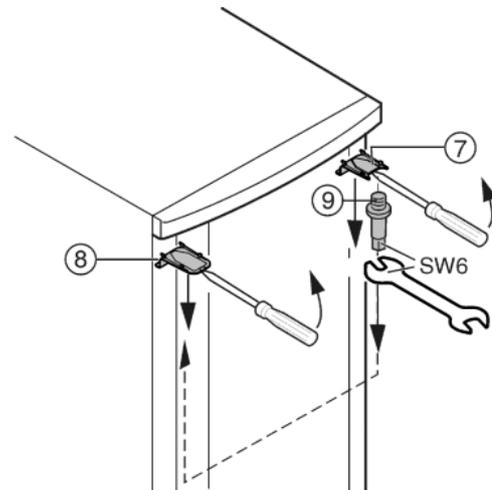

Fig. 6
- ▶ At the top, use a screwdriver to unclip cover *Fig. 6 (7)* and cover *Fig. 6 (8)* at the front, and remove by pulling out and down.
- ▶ Unscrew the bearing pin *Fig. 6 (9)* and screw it firmly into place on the opposite side (**with 4 Nm**).
- ▶ Refit the cover *Fig. 6 (7)* on the side of the bearing pin: insert at the back, snap in at the front.
- ▶ Fit the cover *Fig. 6 (8)* on the opposite side: insert at the back, snap in at the front.
- ▶ Hang the door on the bearing pin Fig. 6 (9) at the top.